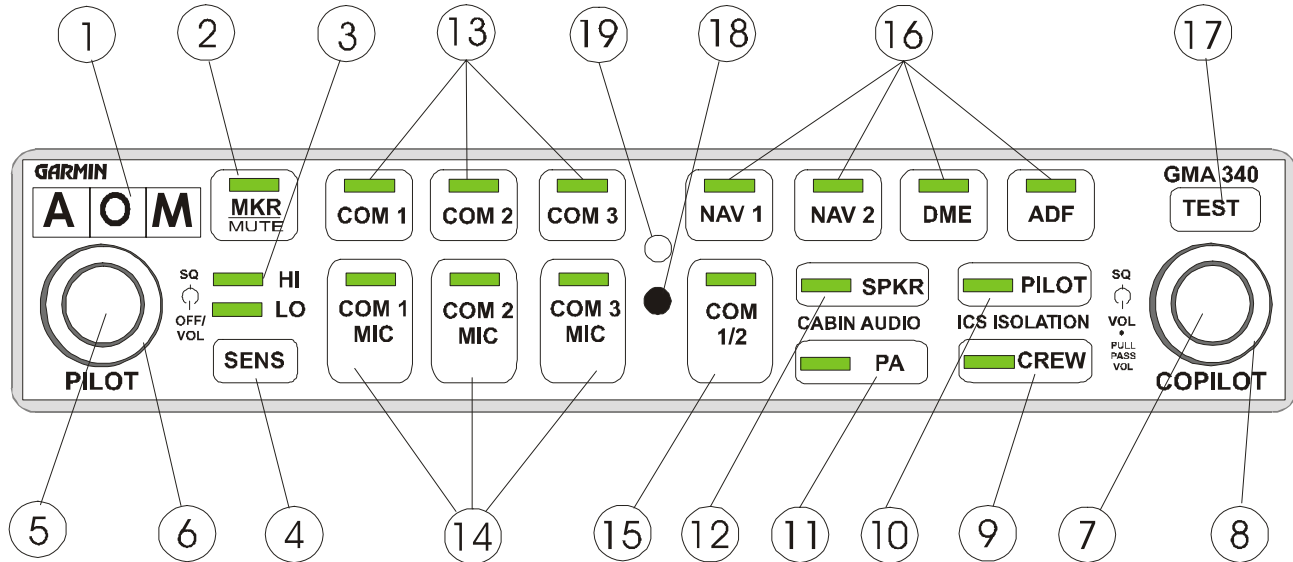

Figure 3-1. GMA 340 Front Panel
Except for marker beacon operation, an in-aircraft checkout may be performed in the aircraft on the ramp with known good microphone, headset, speaker and avionics receivers. Item numbers in parentheses refer to front panel controls shown in figure 3-1, page 3-1.
The GMA 340 is powered off when the left small knob (figure 3-1, item 5) is rotated fully CCW into the detent. To turn the unit on rotate the knob clockwise past the click. The knob then functions as the pilot's ICS volume control. A failsafe circuit connects the pilot's headset and microphone directly to COM 1 in case the power is interrupted or the unit is turned off. Refer to the note in paragraph 2.6.2.